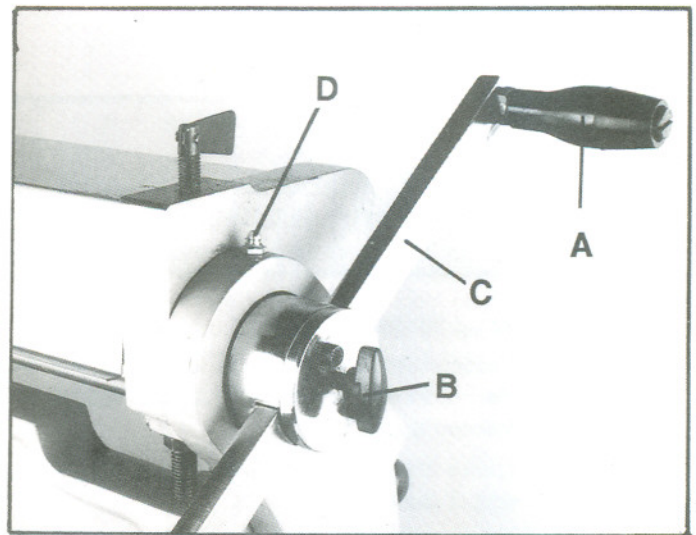

Fig. 1
7. Remove one handle (A, Fig. 1) from the handle assembly.
8. Loosen wing lock (B, Fig. 1).
9. Slide bar (C, Fig. 1) into hub and tighten wing lock (Fig. 1) to hold in place.
10. Replace handle (B, Fig. 1).
1. Grease nipples on top of left and right frame sides with #2 lithium tube grease once a month (D, Fig. 1).